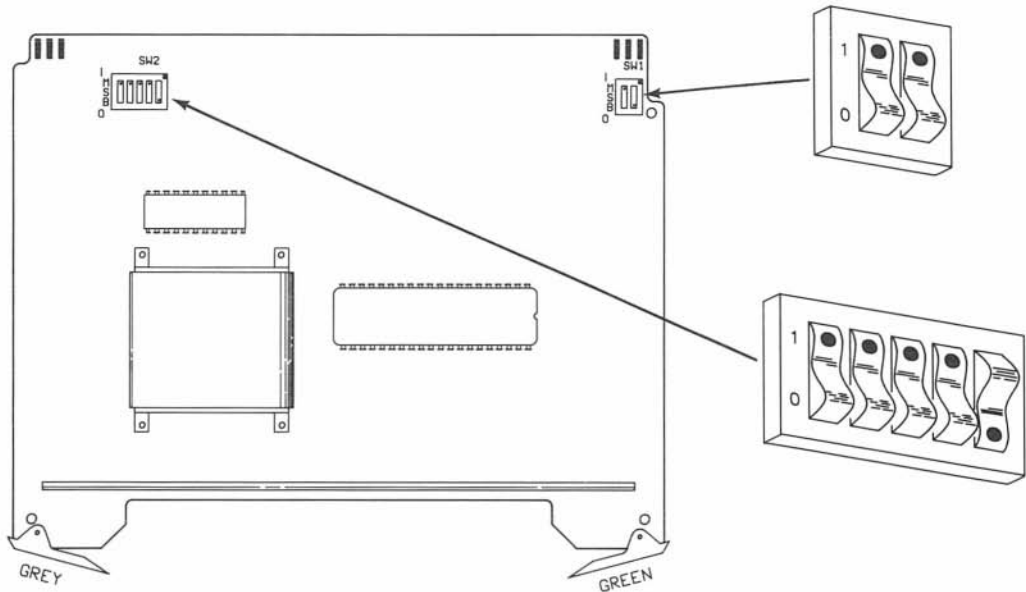

Figure 6-2. Bubble Memory Card Switches
- Find the set of five select code switches, labeled SW2 on the card, by referring to Figure 6-2.
- Find the interrupt level switches, labeled SW1 on the card, by referring to Figure 6-2.
- If this is the first (or only) Bubble Memory Card you are installing, set the interrupt level to 6 as shown in Figure 6-2.